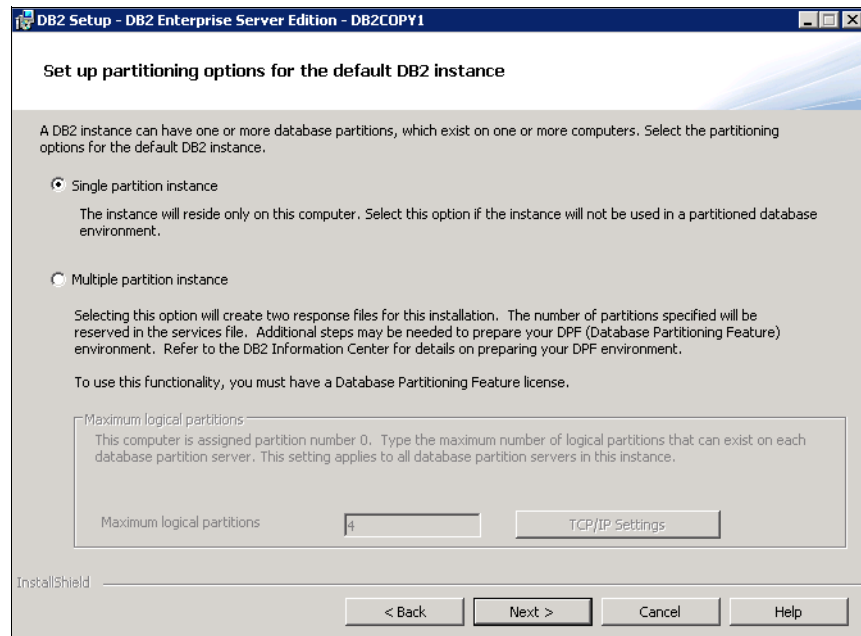

Figure 12-11 Single partition instance
10. Select **Single Partition Instance** and click **Next** (Figure 12-11).